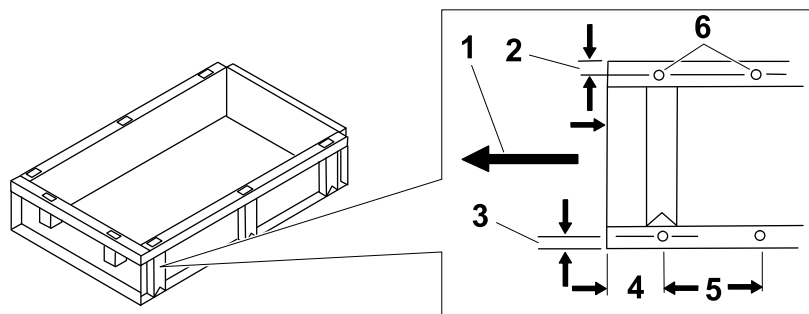

Figure 2
1. Locate and mark the hole location on the bed (Figure 2).
2. Use a 13/32 inch drill bit and drill a hole at the locations that you marked (Figure 2).